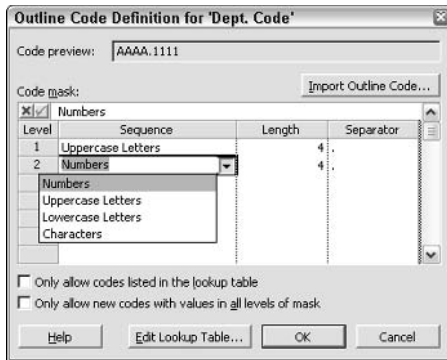

Figure 7-27: The Outline Code Definition dialog box looks and operates like the WBS Code Definition dialog box.
4. Click the Define Code Mask button to display the Outline Code Definition dialog box, shown in Figure 7-27.